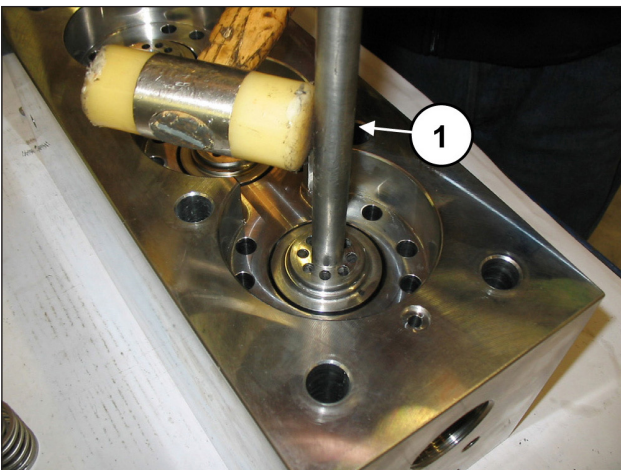

Fig. 102
If the valve seats are blocked on the head due to the formation of scale or oxide, they must be freed by inserting the tool (code 034300020) in the outlet hole (pos. ①, Fig. 102).